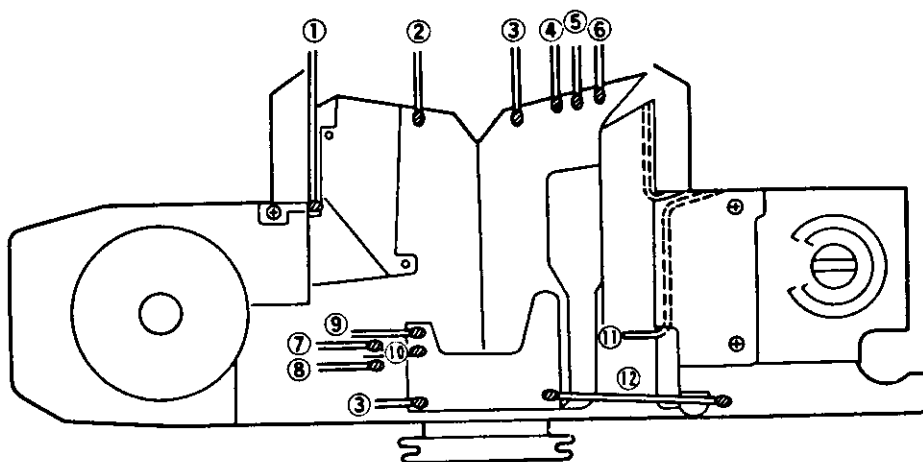

Fig. 4
- 1) Detach the soldered portions of all LEAD WIRES shown in Fig. 4.